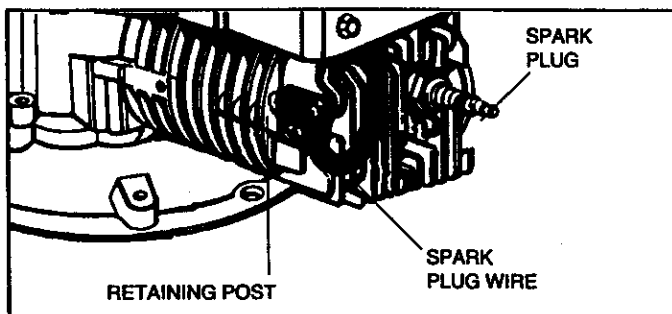

Figure 6
DISCONNECT SPARK PLUG WIRE FROM SPARK PLUG AND ATTACH IT TO RETAINING POST (see Figure 6 on Page 3).
① See mower manufacturer's instructions.
② AFTER ENGINE IS STOPPED:
A. DISCONNECT SPARK PLUG WIRE FROM SPARK PLUG AND ATTACH IT TO RETAINING POST (see Figure 6).